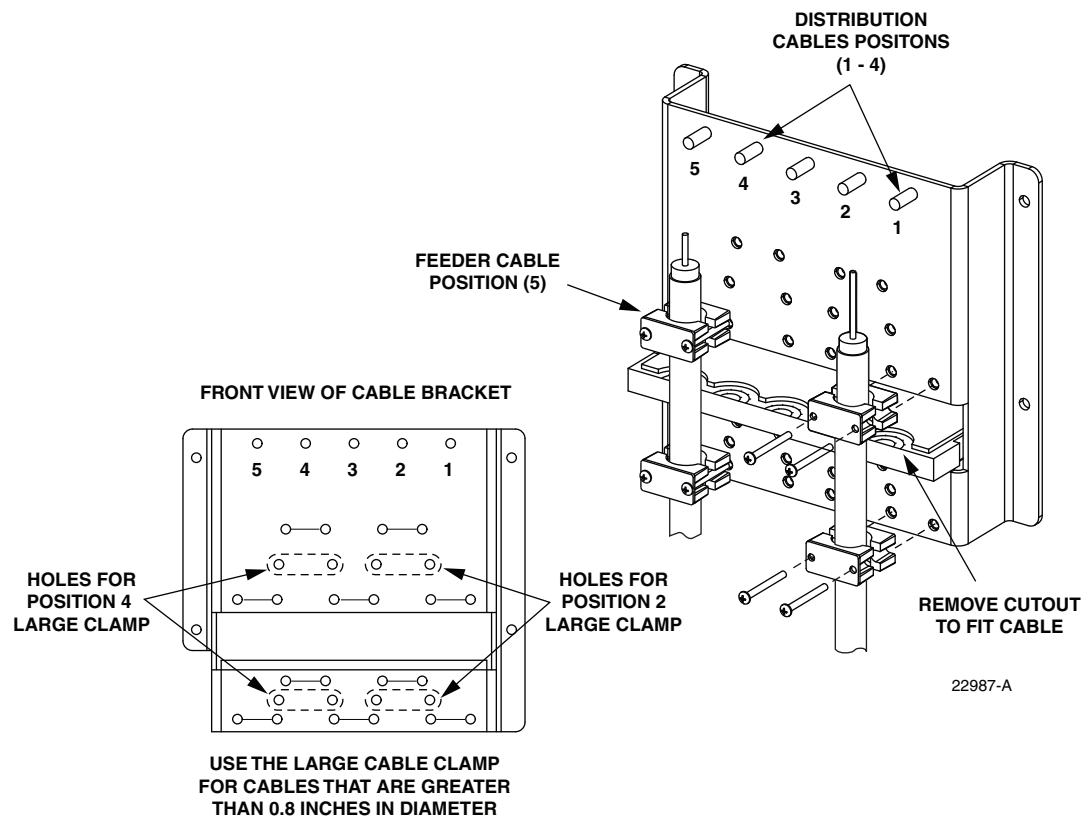

Figure 26. Secure Distribution Cable to Cable Bracket
5. Locate the cable clamping positions specified for securing the distribution cables to the cable bracket as shown in Figure 26.